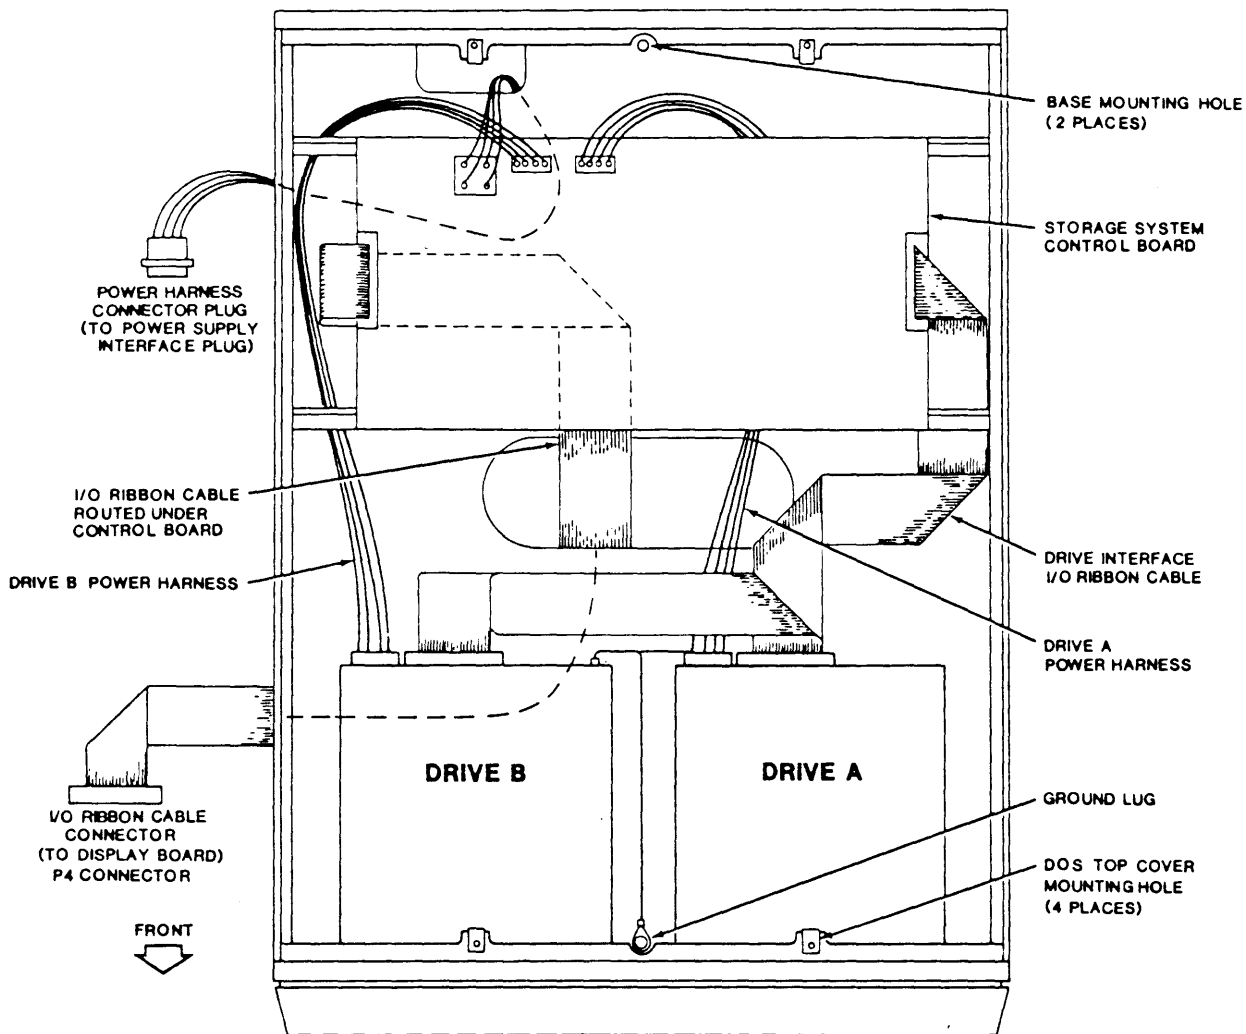

Figure 6-4. K450 DSS Assembly, Top View With Cover Removed
6. Fold the I/O ribbon cable under the Disk Controller Board so that it is routed to the left Controller Board connector, J3. See Figure 6-4. Pin 1 is at the front of connector J3. Connect the I/O ribbon cable to the Controller Board connector. Ensure that no cables interfere with the final positioning of the DSS assembly, and seat the assembly on the top of the K450 chassis.